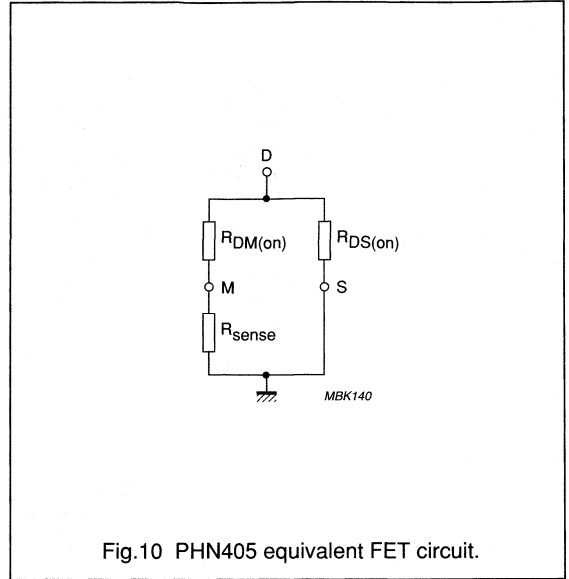

Fig.10 PHN405 equivalent FET circuit.
Think of the FET as a voltage-controlled resistor between drain (D) and source (S) respectively monitor (M) terminals. The equivalent resistance model is shown in Fig.10.